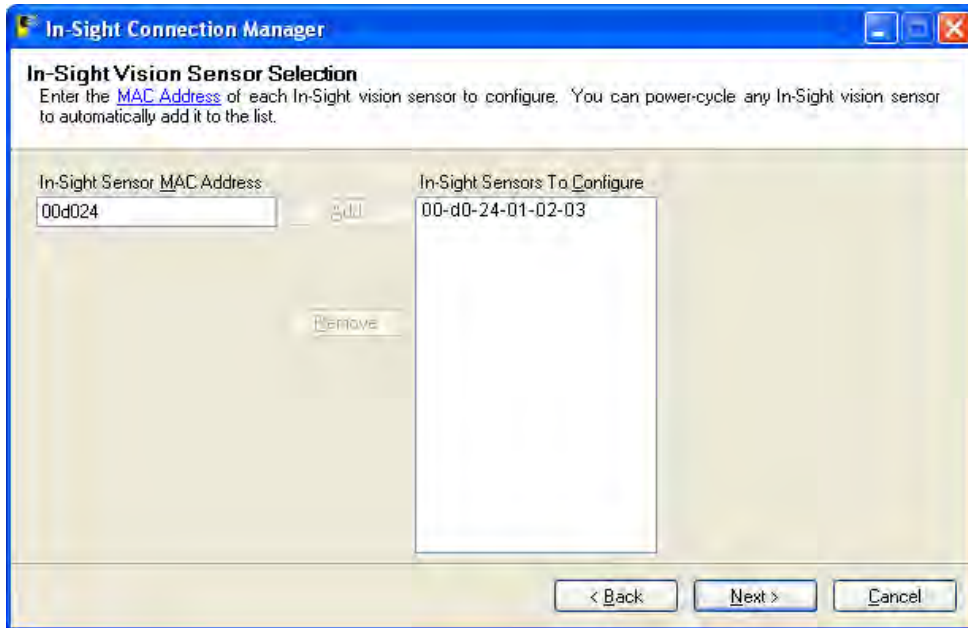

Figure 4-3: In-Sight Vision Sensor Selection Dialog
7. In the left-hand text box, enter the MAC address for the sensor you would like to configure, then click **Add** (Figure 4-3). Repeat these two steps for any additional sensors you would like to configure. Alternately, you can simply power-cycle any sensors you would like to configure, and the In-Sight Connection Manager will automatically add the corresponding MAC address to the list after the sensors reboot.